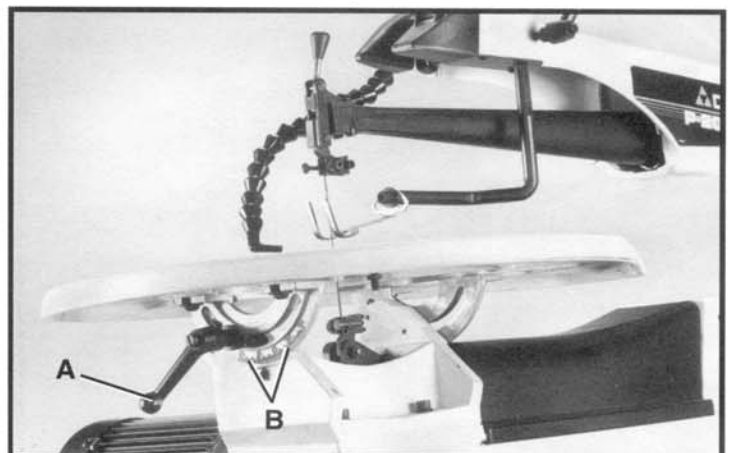

Fig. 29
The table on your scroll saw can be tilted 45 degrees to the right and 15 degrees to the left for bevel cutting operations by loosening table lock handle (A) Fig. 29, tilt the table to the desired angle, and tighten lock handle (A). A scale and pointer (B) is provided to determine the angle of tilt.